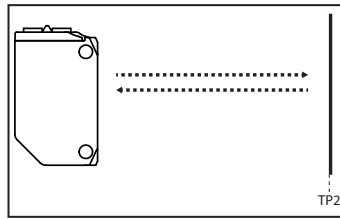

Fig. 4: Sensor - background
- ▶ Align the diffuse reflection sensor to the background (fig. 4).